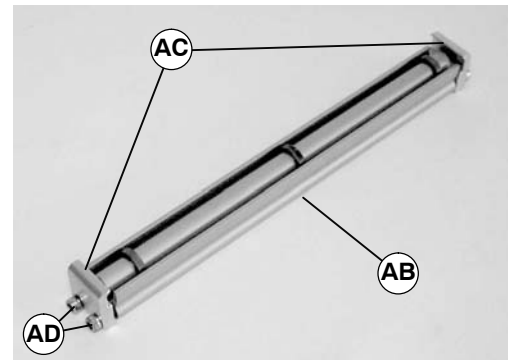

Figure 16
2. Loosely attach two clips (AC of Figure 16) on roller and guard assembly (AB) with four screws (AD). Do not tighten screws.
3. Attach return roller assembly (AE of Figure 17) on conveyor (V). Tighten screws (AD of Figure 16) to 80 in-lb (9 Nm).